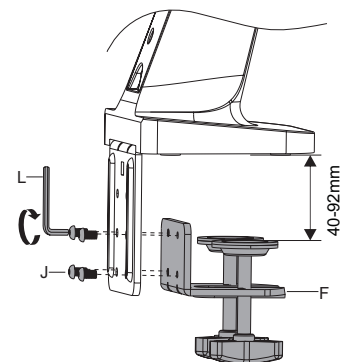

Figure 2B
- b) Desktops of 40mm-92mm thickness: Select the two lower mounting holes and secure them using Bolt (J) with Allen Key (L) turning clockwise until tight, see Figure 2B.